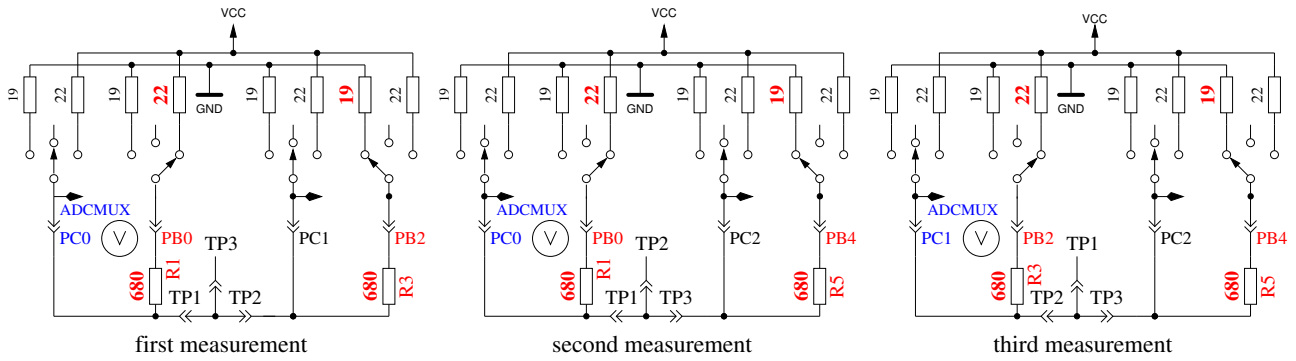

Figure 5.55. Comparison of 680Ω resistors
2. **Comparing of the  $680\Omega$  resistors.** In row 1 the cryptic text "+RL- 12 13 23" is shown. Meaning of this is as follows: The RL is the short form of Resistor Low meaning the  $680\Omega$  resistors. The 12 stand for: resistor at pin 1 is connected to VCC (+) and resistor at pin 2 is connected to GND (-). The result of this measurement is displayed in row 2 at the first place as difference to the theoretical value. In row 1 follows now a "13" which means, that the first connection of measurement 1 is still connected with  $680\Omega$  to VCC but that the resistor of pin 3 is connected to GND. The result is displayed in the middle place of row 2 as difference to the theoretical value. The last measurement of this test "23." means that now the resistor at pin 2 is connected to VCC (+) and the resistor of pin 3 is connected to GND. The result of measurement is displayed at the last place of LCR row 2 as difference to the theoretical value. Please remember, that the resolution of the ADC is about 4.88mV! The measurement situation is also shown in figure 5.55. The theoretical value with respect to the internal resistance of the pins should be: